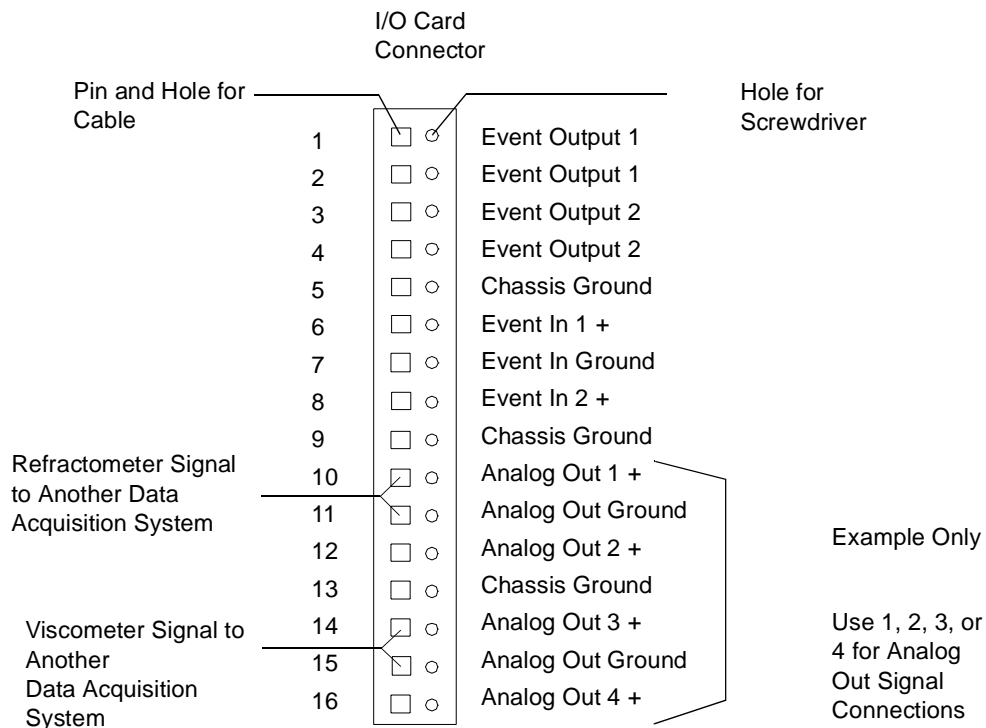

Figure 2-12 Analog Out Signal Connections on the I/O Card
1. Connect one end of an I/O cable to these pins on the I/O card (Figure 2-12):